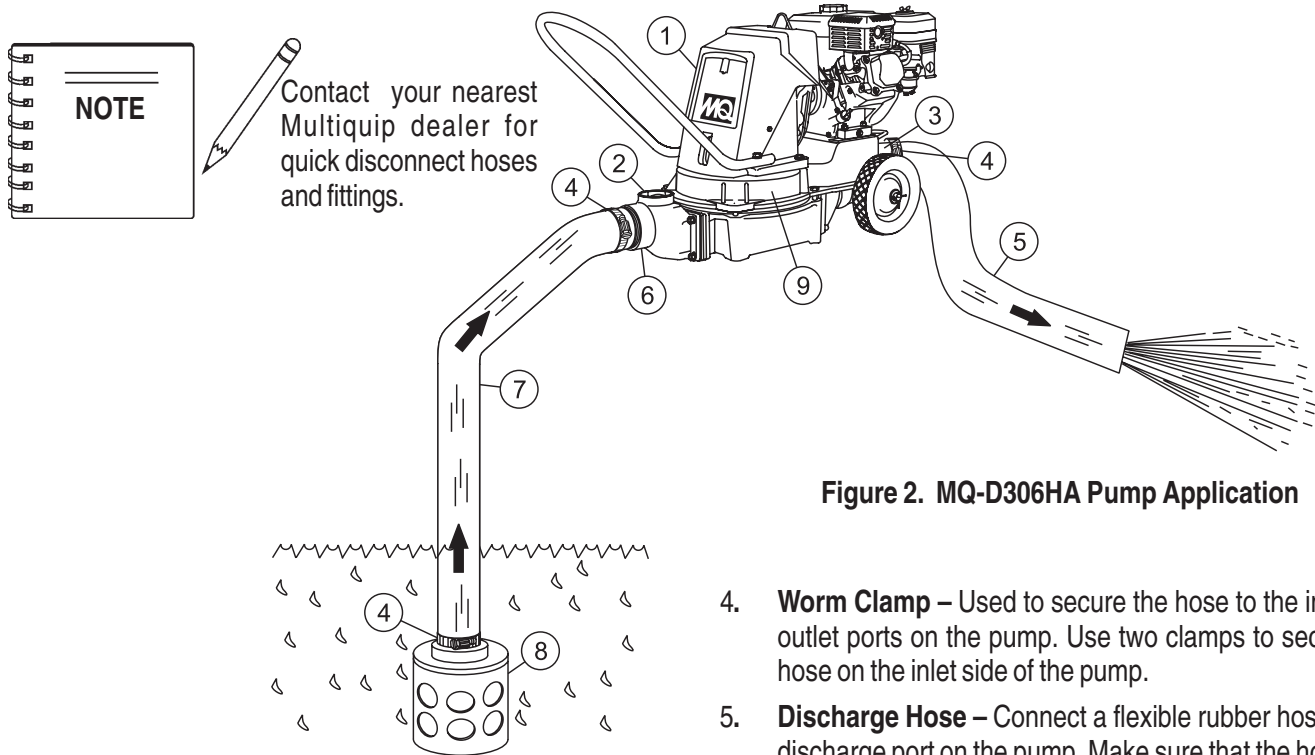

Figure 2. MQ-D306HA Pump Application
Figure 2 shows a typical application using the MQ D306HA series diaphragm pump. Please note that this pump is intended for the removal of clean water and water containing some debris and solids. Maximum size of solids should not exceed 1.5 inch (38 mm) in diameter. **DO NOT** set strainer on bottom of water bed. Placing the strainer above the water bed will prevent the pump from drawing in excessive amounts of sand and foreign debris.
3. To prime pump, remove fill cap (Figure 2) and fill pump casing with water. If the pump casing is not filled with water before starting, it will not begin pumping.
1. Check that all hoses are **securely** attached to the pump. Make certain suction hose (Figure 2) does not have any air leakage. Tighten hose clamps and couplings as required.
4. Check that the **discharge** hose (Figure 2) is not restricted. Place hose so that it lays as straight as it is possible on the ground. Remove any twists or sharp bends from hose which may block the flow of water.
6. Make sure the **suction strainer** (Figure 2) is clean and securely attached to the water end of the suction hose. The strainer is designed to protect the pump by preventing large objects from being pulled into the pump.